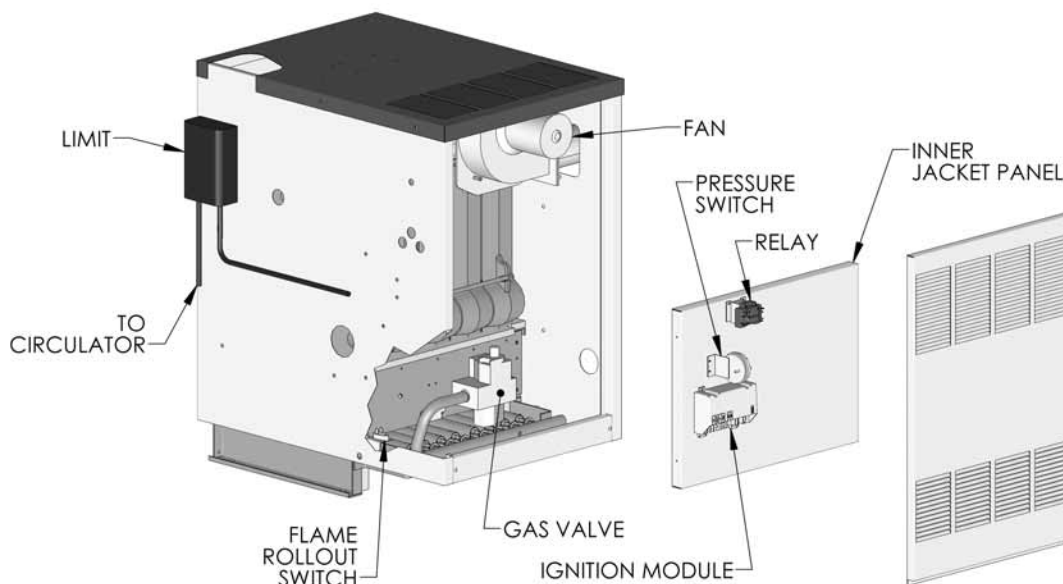

Figure 6.1: Wiring, Controls and Safety Devices
1. See Figure 6.1 for location of wiring and controls. Use Figure 6.2 to connect the boiler to a power supply and to connect components to the boiler.
1. For proper location of controls and accessories refer to Figure 6.1 and Section 11.